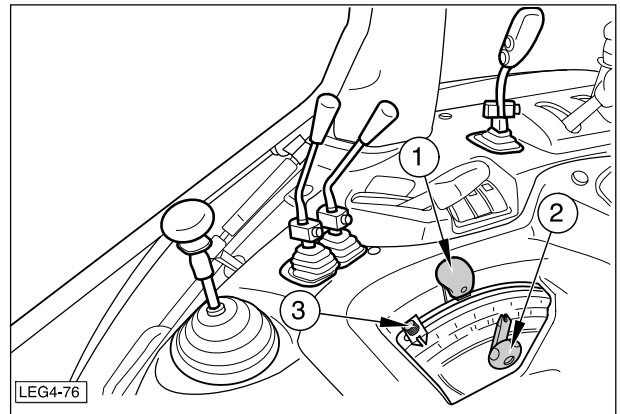

Fig.4-86 - Top
When the lever (2 - Fig. 4-86) is moved completely forwards, the lift will operate in full draft control mode, while full position control mode is obtained by moving the lever completely backwards. When the lever is placed in any intermediate position, the lift operates in **Intermix** mode, that is in a mixed draft and position control mode.
Use of the lift in float mode is obtained by setting the lever (2 - Fig. 4-86) fully back in the position control setting and the link control lever (1) fully forwards. Just use the control lever (1) to lift or lower the implement.